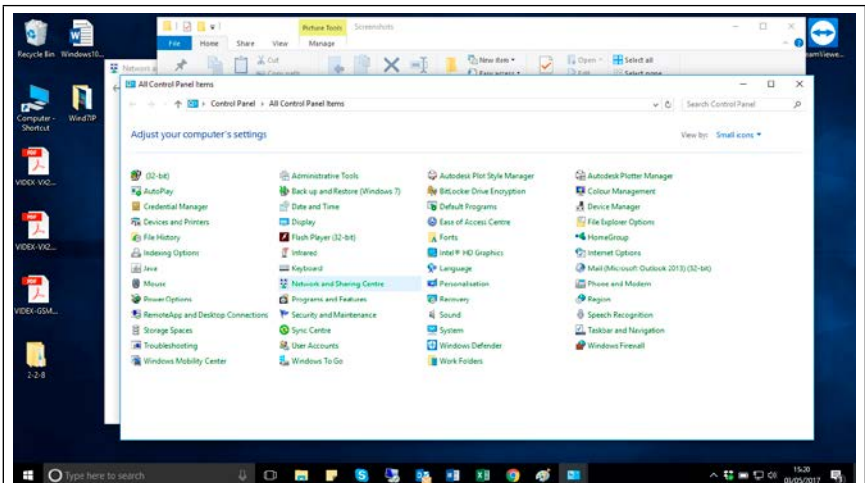

Fig. 2 Select "Network and Sharing Centre"
2. Pull outwards the top part of the cover as shown in Fig. 2. **Don't pull the cover straight.**